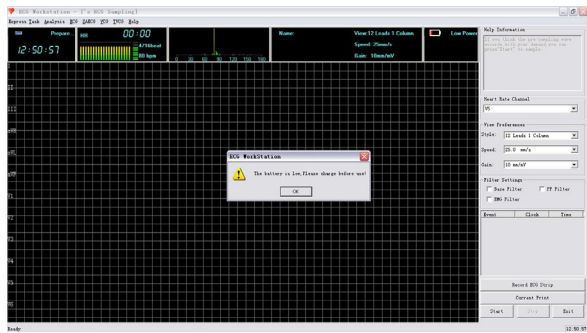
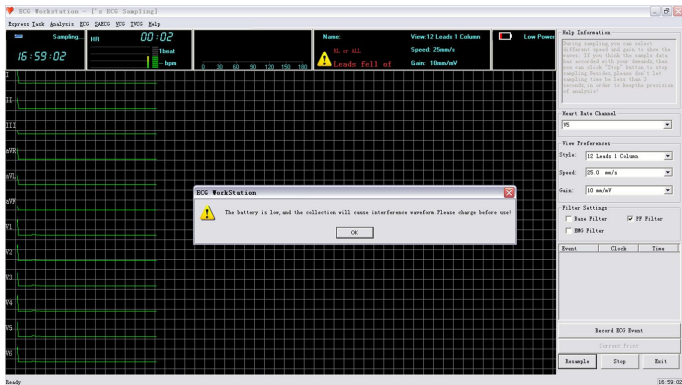
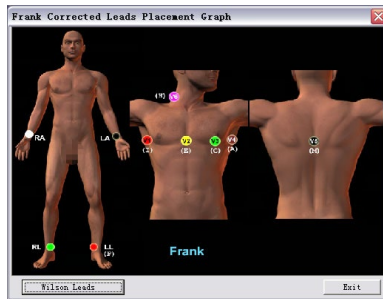
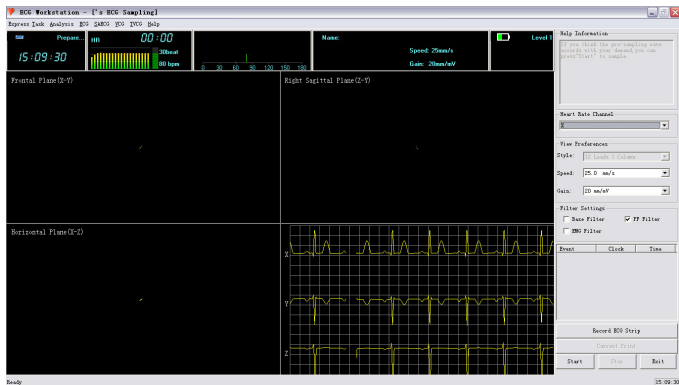

Figure 27
Figure 28
Figure 29
Figure 30
During collecting process, battery power displayed on the collecting interface in real-time, which also called the battery bar. In the following picture, the battery bar means "battery level is two", and its color is green. When the color turns to red, it means "the battery is low". Please charge the device, as the collecting can't be continued in low battery. The device will prompt low battery during pre-collecting process, as shown in Figure 27, while during formal sampling process, the prompt interface is shown in Figure 28.
- ◆ If both "Wilson Type 12 Leads" and "Frank 3Leads" are selected, systems will pop up dialog (As **Figure 28**) after clicking "close" button in **Figure 29**.
Place the electrodes according to Figure 29, then click "Start" button to enter the interface shown as Figure 30.